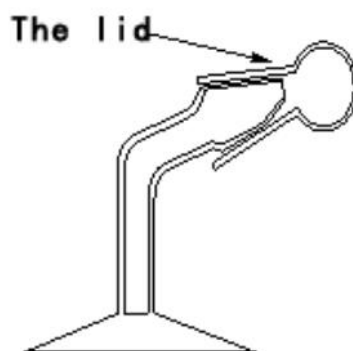
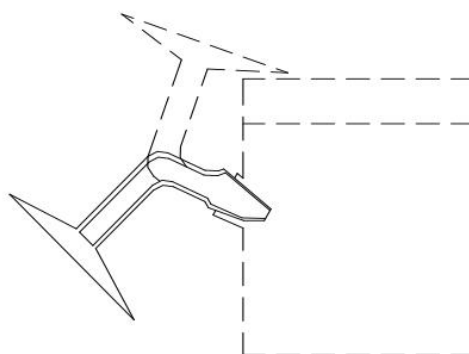

Figure 6.1
Figure 6.2
- ① The solid sampler is shown in Figure 6.1, cleaned with water and dried well.
- ② Remove the lid of solid sampler, load the samples, cover it immediately, and weigh it accurately.
- ③ Remove the cock of the samples input of the electrolytic cell and insert the sampler into the samples input as shown by the solid line in Figure 6.2. Rotate the solid sampler 180 degrees, as shown by the dotted line in Fig. 6.2, so that the samples falls into the